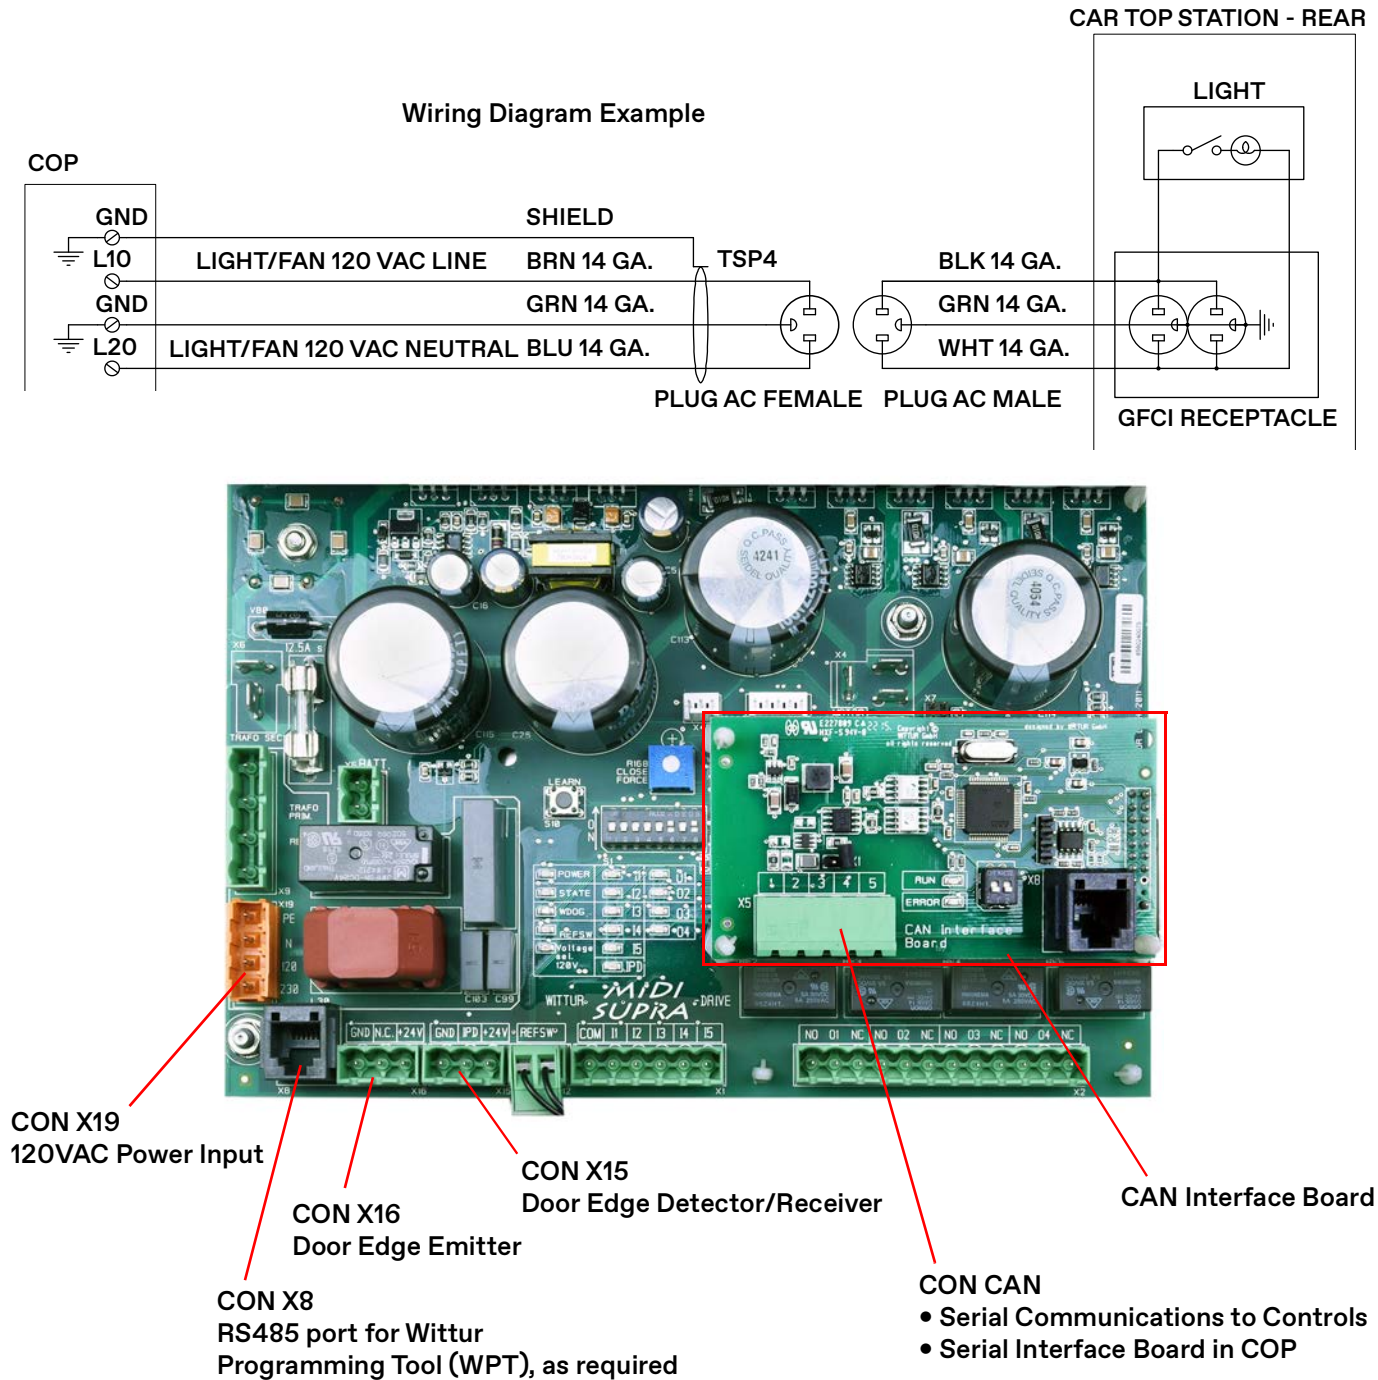

Figure 54 - Wiring Diagram Example and Harness Connections
3. Attach the previously installed door operator harness and the plugs in the COP to the Door Operator Control Board. See Figure 54 on page 60.